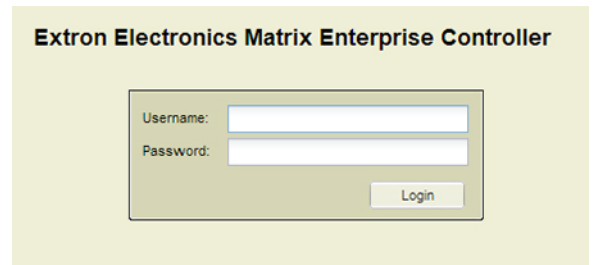

Figure 1: Enterprise Controller Login Screen
1. Open a PC with access to the VN-Matrix network and in a suitable browser (Google Chrome, Firefox, or Internet Explorer) type the IP address of the system controller in the browser address bar. The login page opens for the Enterprise Controller GUI (Figure 1) or the VNM 250 controller GUI (Figure 2):